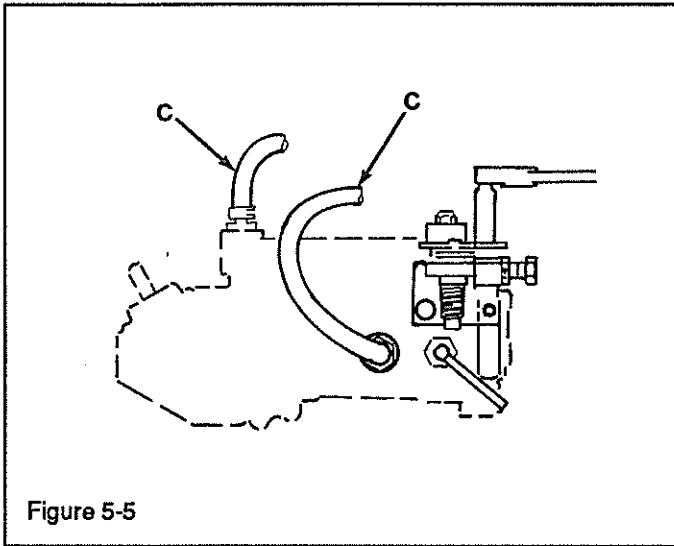

Figure 5-5
- Disconnect hydrostatic control rod (B) from pivot arm.
- Disconnect hydrostatic fluid hoses (C, Figure 5-5) from hydro. **Oil may flow from hoses.**
- g. Connect the two fluid hoses (C, Figure 5-5) to the hydro. (Oil may have to be replenished.)